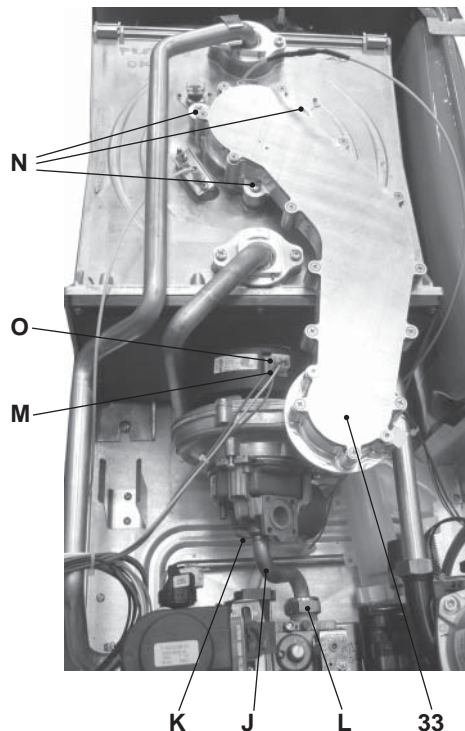

Fig. 9.7
Removing the fan burner unit 33 in Fig. 9.7.
- Insert a flat screwdriver in the connector recess M and lever towards the bottom, disconnect the connector at the same time O by pulling towards the front O (Fig. 9.7).
- Unscrew screws N and remove the fan burner unit 33 (Fig. 9.7)